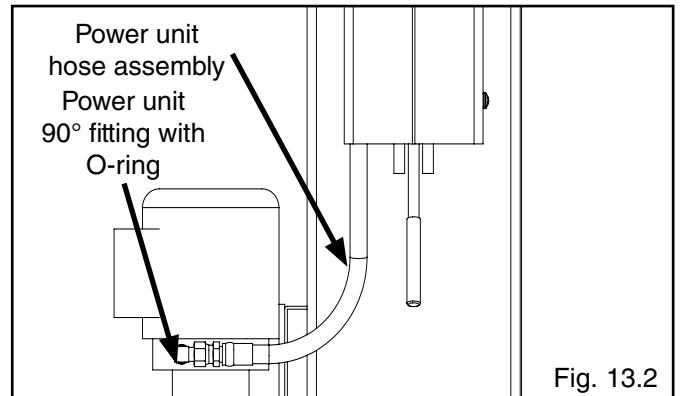

Fig. 13.2
2. Install the 90° fitting w/ O-ring into the power port of the power unit. Use Teflon tape on the pipe fittings ONLY. Connect power unit hose assembly to the 90° w/O-ring fitting on the power unit. (See Fig. 13.2)